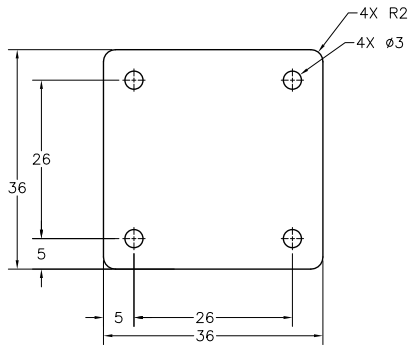

Figure 26-128 Sketch for the area to Press/Pull
12. Choose the **Top** option from the **Views** panel in the **View** tab and draw the sketch with the dimensions shown in Figure 26-128.